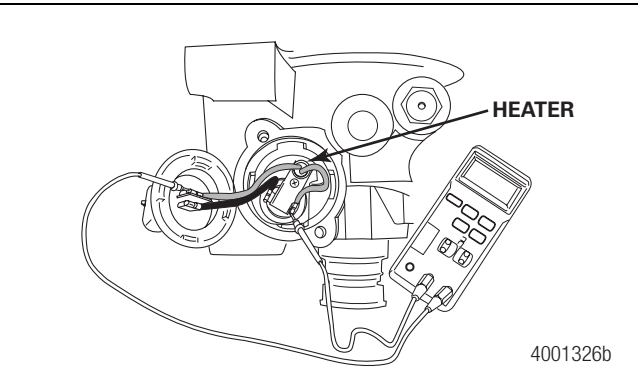

Figure 2.2
- 4. With wires connected and correctly secured, touch one probe to each heater element lead. Figure 2.2.